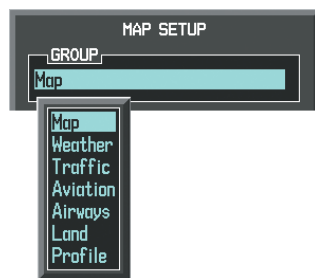

Figure 6-77 Navigation Map Page Setup Menu
- 4) Turn the small **FMS** Knob to select the 'Map' Group and press the **ENT** Key (Figure 6-77).